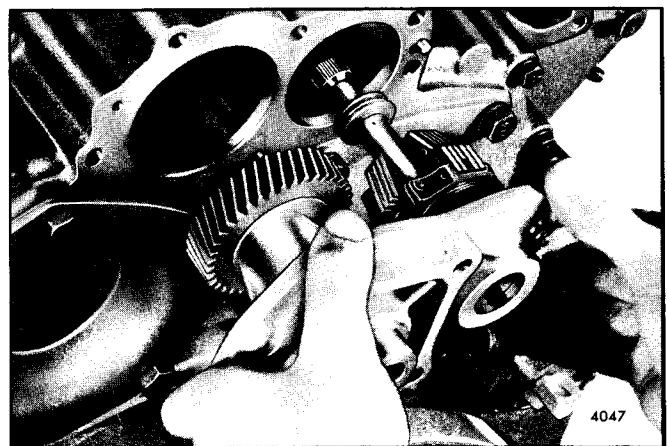

Fig. 3 - Removing/Installing Blower Drive Support (6V Engine)
10. Remove the two bolts and copper washers securing the blower drive support assembly. Then, withdraw the drive assembly until the splined end of the drive shaft is free from the drive plate (Fig. 3). Turn the drive assembly slightly so the serrated end of the governor weight shaft will pass around the governor operating fork. Remove the drive support from the engine.